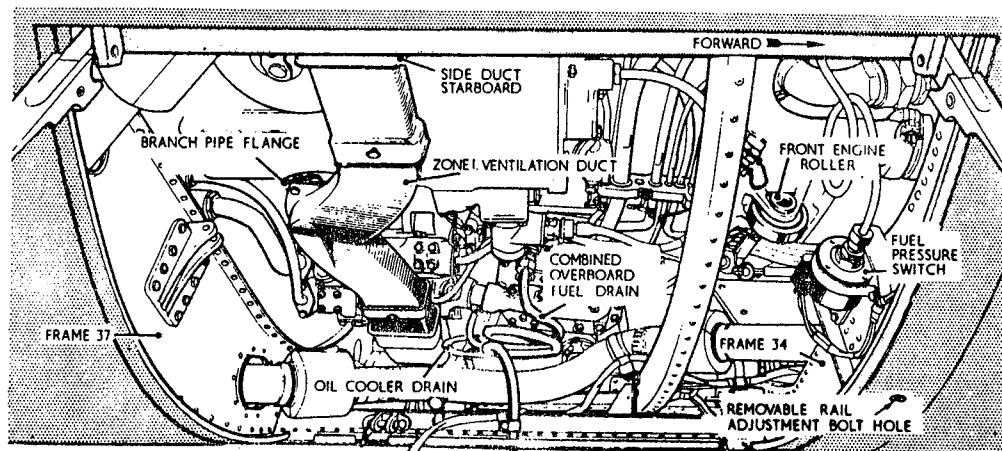

Fig. 9. Engine access door
Engine access door (fig. 9)
- ◀ (4) The pipe to the fuel pressure switch (fig.9), must be examined and refitted as described in para.28. ▶
- (5) It is essential that "Priming the fuel system" and "Fuel drainage check" (*fail-safe*) checks described in Appendix 1, be carried out after each engine removal, whenever the starter is changed, or where there has been any disturbance of the components of the starter fuel system.
- (6) Before attempting to start the engine, check that the following pipe connections are tight:—
Pipe to the fuel pressure switch (fig.9)